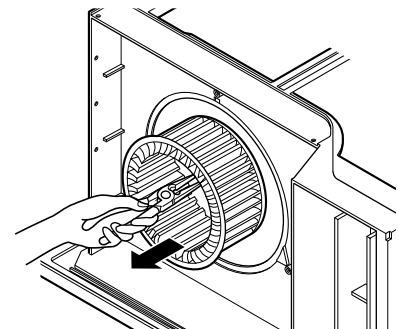

Figure 22
9. Remove the blower with plier or your hand without touching blades. (See Fig. 22)